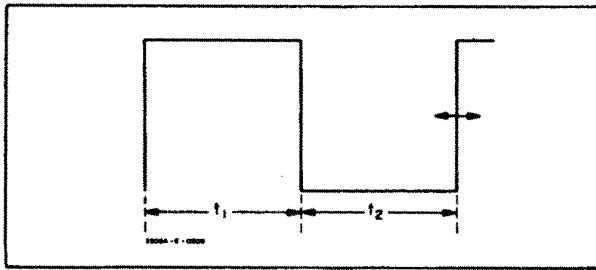

Figure 5-5. Symmetry Adjustment
- c. Measure t1 and adjust A13R22, LOWER FREQ. SYM., to make t2 = t1. Ref. Figure 5-5. If A13R22 does not have enough range change A13Q20.